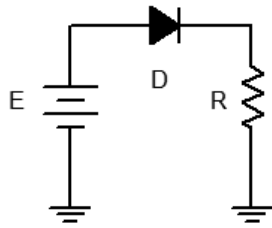
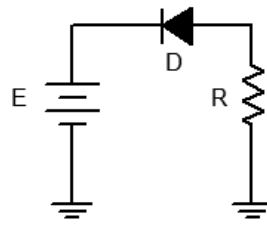

Figure 1
Figure 2
1. Consider the circuit of Figure 1 using $R = 1\text{ k}\Omega$. For any positive value of E , the diode should be forward biased. Once E exceeds the knee voltage, all of E (minus approximately 0.7 volts) drops across R . Thus, as E increases, so does the diode current.
2. Build the circuit of Figure 1 using $R = 1\text{ k}\Omega$. Set E to 0 volts and measure both the diode's voltage and current and record the results in Table 1. Remember, voltage is measured across a device (parallel) while current is measured through it (series). Repeat this process for the remaining source voltages listed.
4. Consider the circuit of Figure 2 using $R = 1\text{ k}\Omega$. For any positive value of E , the diode should be reversed biased. In this case, the diode should always behave like an open switch and thus no current should flow. If no current flows, the voltage across R should be zero, and thus the diode voltage should be equal to the applied source voltage. Note that the diode's voltage polarity is negative with respect to that of Figure 1.
5. Build the circuit of Figure 2 using $R = 1\text{ k}\Omega$. Set E to 0 volts and measure both the diode's voltage and current and record the results in Table 2. Repeat this process for the remaining source voltages listed.